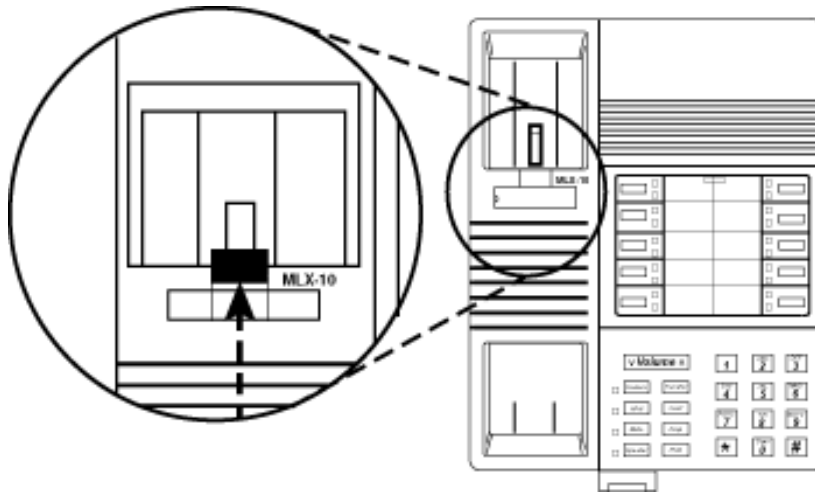

Figure 3-5. Removing the Handset Holder
1. Remove the handset holder by pushing it up and pulling it out. See Figure 3-5.